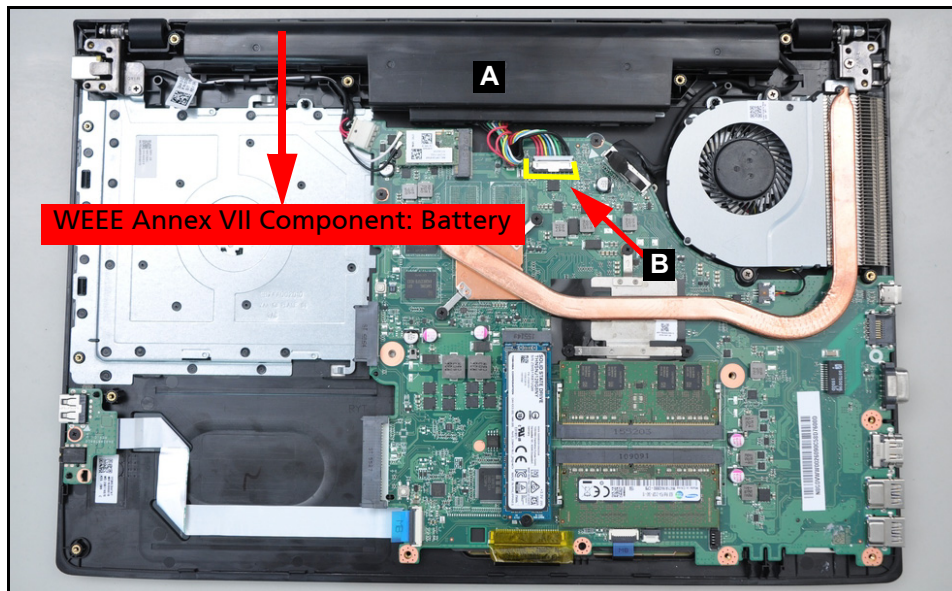

Figure 3-23. Battery Pack Removal
1. Find the battery pack (A) in the system (Figure 3-23).
2. Disconnect the battery cable from the mainboard connector (B) (Figure 3-23).